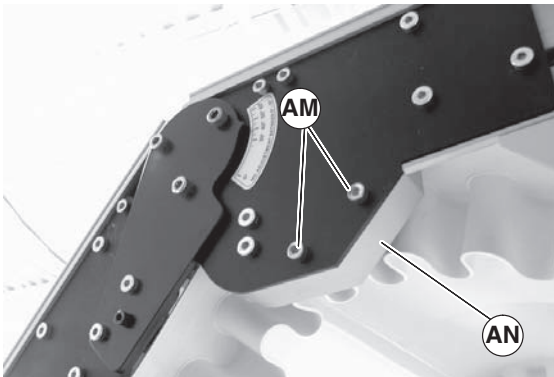

Figure 34
6. Install knuckle guard (Figure 34, item AN) on both sides of knuckle with screws (AM). Tighten screws to 25 in-lbs (3 N-m).